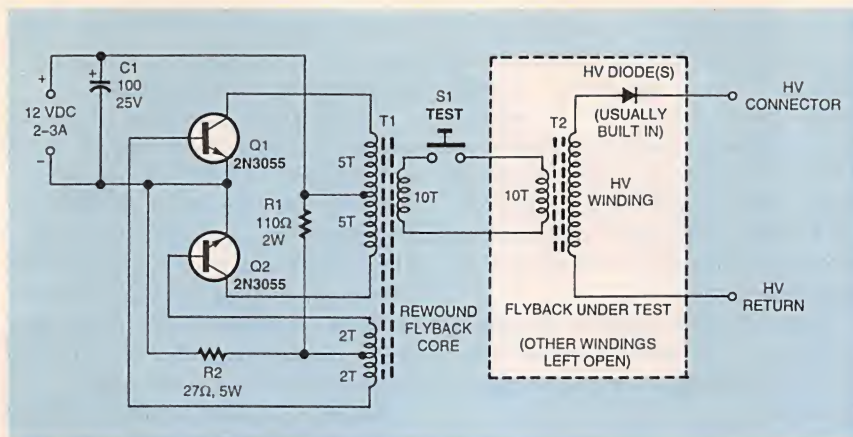

FIG. 2—THE CHOPPER-BASED FLYBACK TESTER excites a flyback in much the same way as would occur in normal operation.
**Method 2:** The circuit in Fig. 2 excites the flyback in much the same way as in normal operation; note that none of the component values in the circuit are particularly critical. The only caution is that this tester probably does not put enough stress on the flyback to find an intermittent that fails only under full operating conditions. However, most flyback failures are solid—once a short develops, there is a meltdown of sorts and it is there to stay.
Once the HV return is found, the circuit in Fig. 2 is wired, and everything is double checked, it is time to “turn on the juice.”